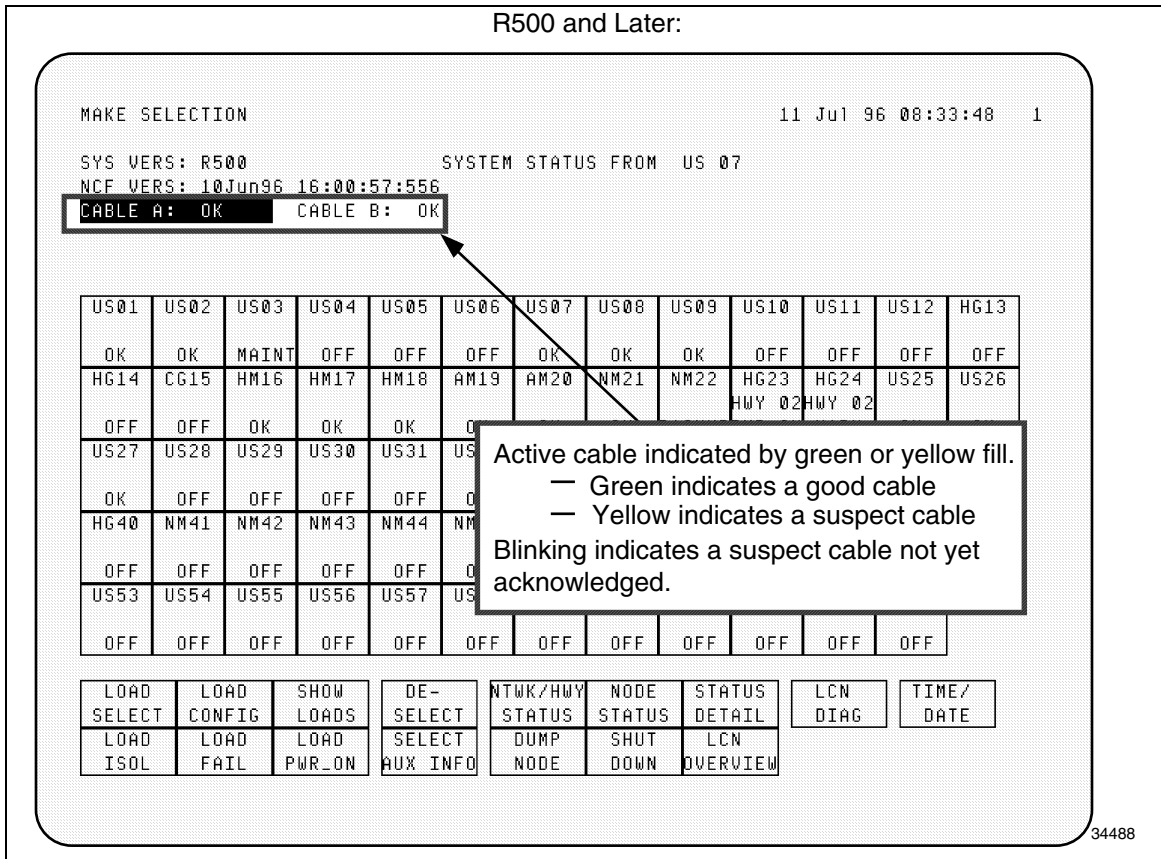

Figure 13 – System Status Display
2. Check the System Status display (refer to Figure 13) and verify that both cables are operating with no errors. Do not proceed if there are errors.